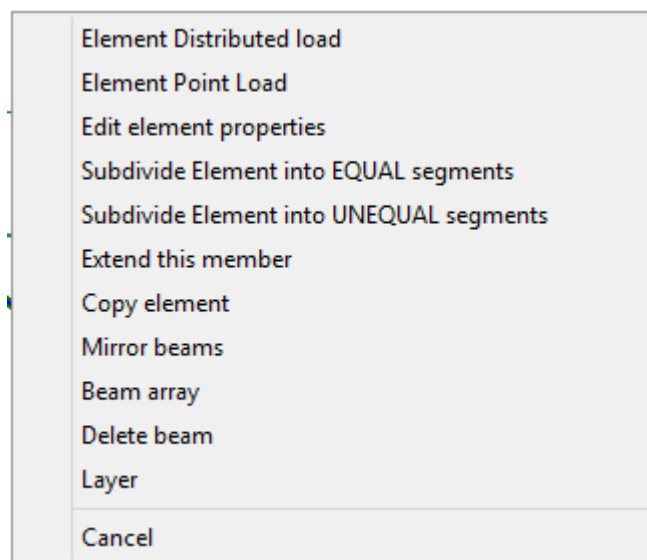

Figure 13
**Step 2:** Click the right button of the mouse. Figure 13 will then pop-up.